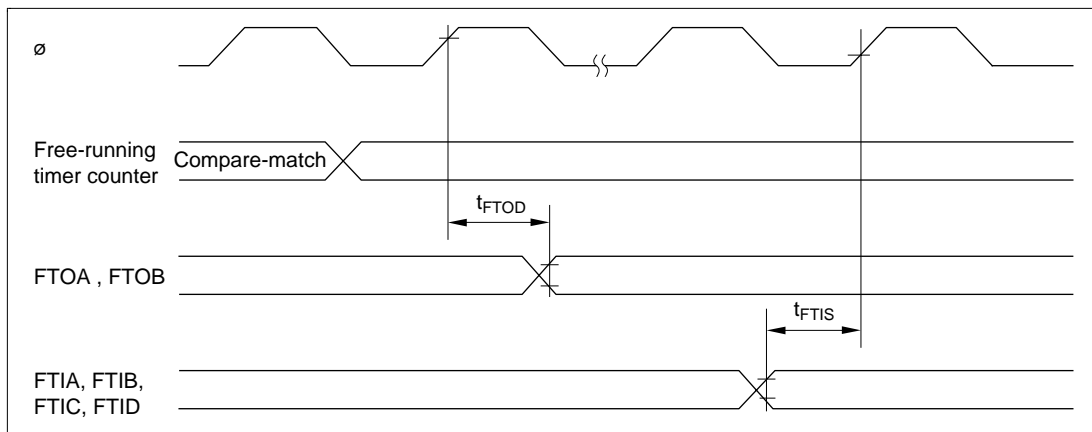

Figure 23.13 Free-Running Timer Input/Output Timing
23.5.3 16-Bit Free-Running Timer Timing	Figures 23.13 and 23.14